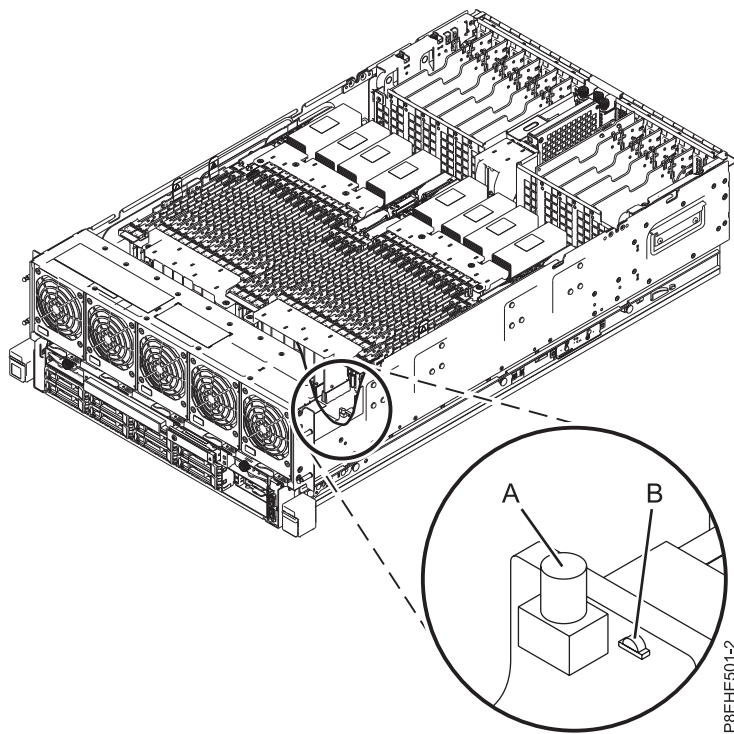

Figure 8. Activating the identify LED
2. Press the push-button (A) on the system backplane, as shown in Figure 8, to activate the identify LED. Verify the LED (B) is lit, which indicates there is sufficient power to the identify LED. If the LED (B) is not lit, use the location code to find the physical location by using the service label.